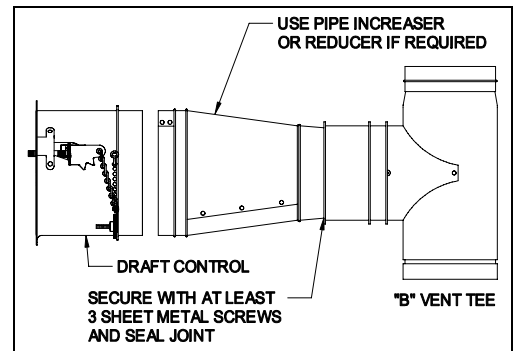

Figure 6
1. Install a vent pipe reducer or increaser into the inner pipe and fasten using sheet metal screws. (See Figures 6 & 7)
Insert the draft control into the collar or tee. The front face of the control MUST be plumb and the bearing surfaces MUST be level whether the control is on a horizontal, vertical or sloping flue pipe. Use a spirit level and level accurately. (See Figures 6 & 7) Secure the control in the collar by tightening the clamping screws. If a tee is used or a collar is supplied locally, the control may be held in place by sheet metal screws.